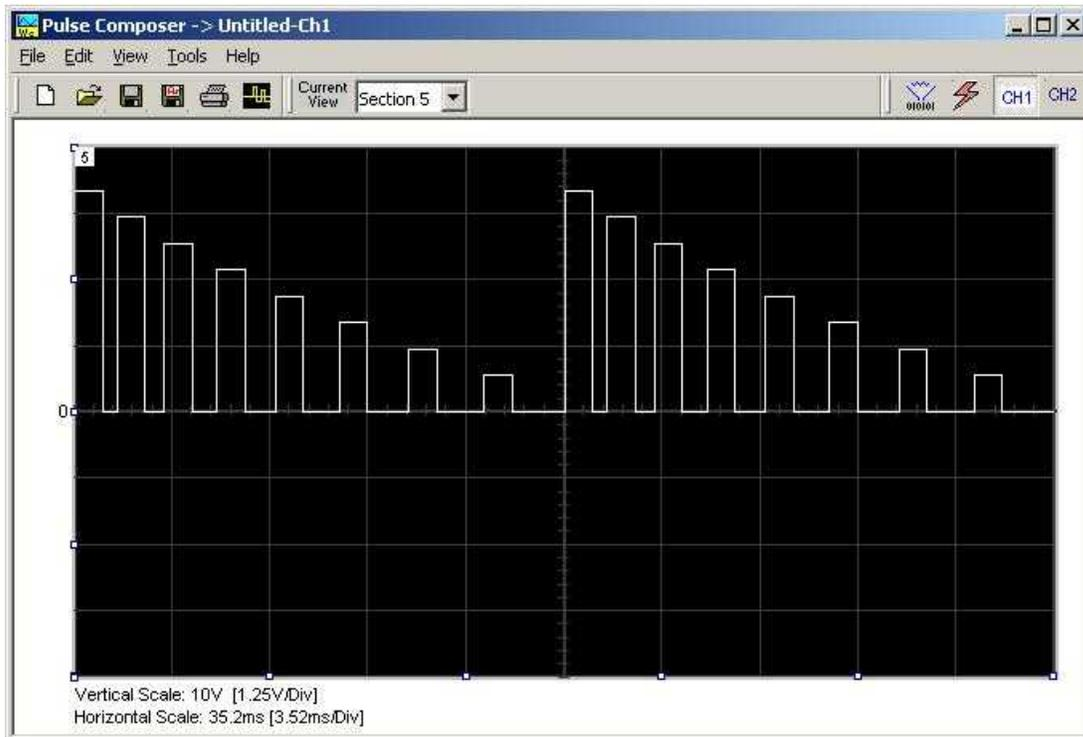
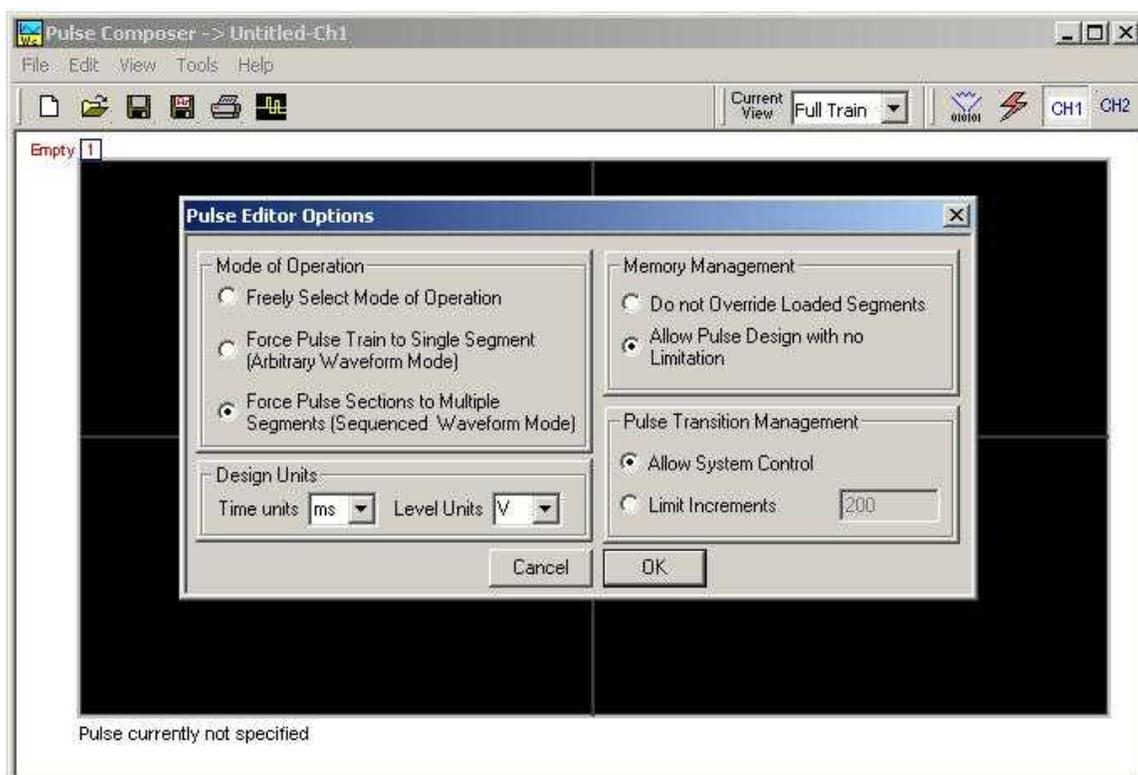

Figure 4-52, Section 5 of the Pulse Train Design
Figure 4-53, Selecting Pulse Editor Options
Now that we somewhat understand the terms we use for the pulse design, we start with an example how to design the pulse train as shown in Figure 4-52. If you already have some pulses shown on your pulse composer screen, click on New to start from a fresh page. Another step before you design your pulse train is to set the design parameters in the options menu that will determine the way that the pulse will be distributed in your waveform memory. Click on View→Options and refer to Figure 4-53 throughout the following description.
As shown in Figure 4-53, the pulse editor option dialog box is divided to functional groups: Mode of operation, Design Units, Memory Management and Pulse Transition Management. These groups are described below.
*Mode of Operation* – This describes the new setting of the operating mode. This field could display one of two options: Arbitrary or sequenced. Pay attention to the note (\*) that says “Select from the menu View>>Options” Since we checked the Force Pulse Train to Single Segment (see Figure 4-53), the generator determines that the waveform mode be arbitrary and only one segment can be loaded with the pulse train.